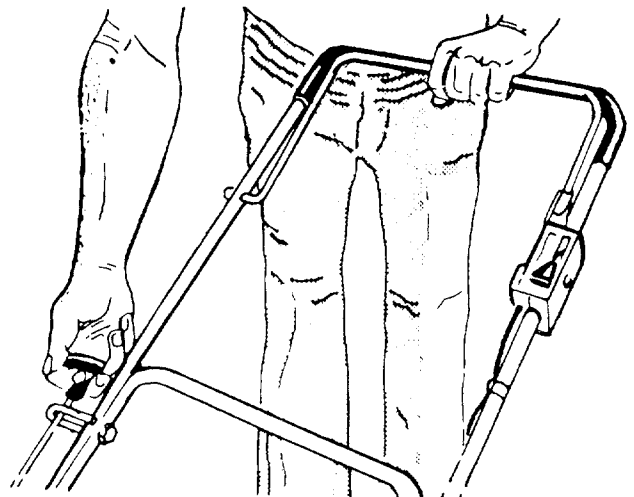

FIGURE 14.
5. Standing behind the unit, depress the blade control handle and hold it against the upper handle as shown. See figure 14.